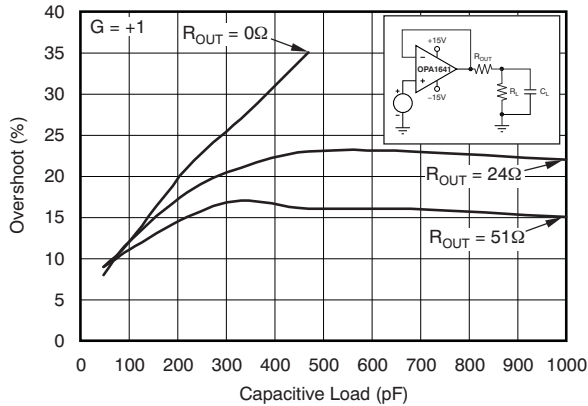
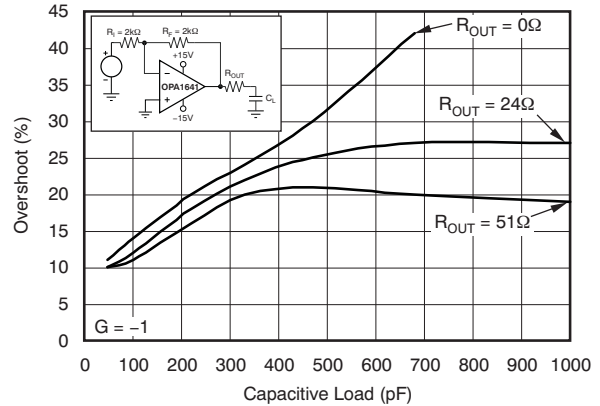

Figure 19. Small-Signal Overshoot vs Capacitive Load (100-mV Output Step)
Figure 20. Small-Signal Overshoot vs Capacitive Load (100-mV Output Step)
(1) Full power bandwidth =  $SR / (2\pi \times V_P)$ , where SR = slew rate.
(2) See Figure 19 and Figure 20.